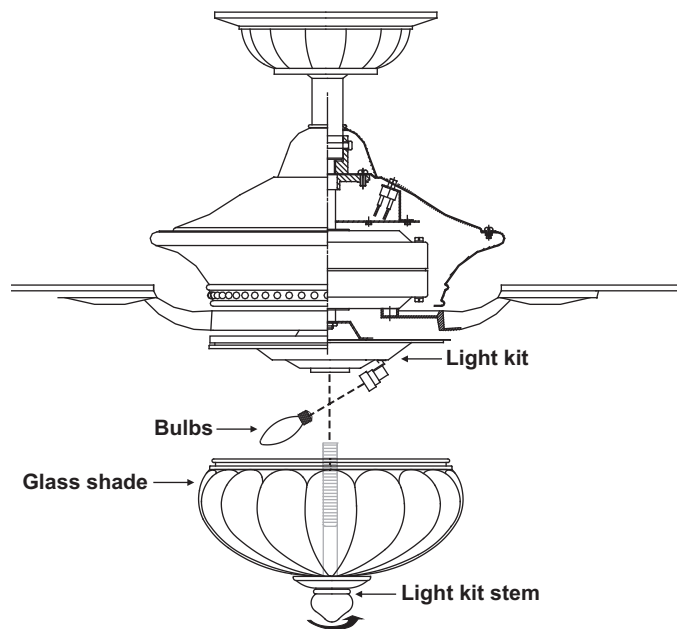

Figure 15
Step 4. Install 3 x 40W candelabra bulbs (included). (Fig. 15)
Step 5. Raise the glass shade up against the light plate and secure it to the fan with the light kit stem. **DO NOT OVERTIGHTEN.** (Fig. 15)